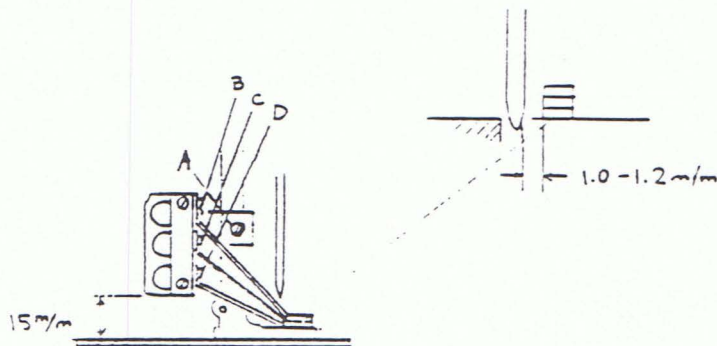

Fig.25
c) Clearance of needle and spreader (Fig.25)